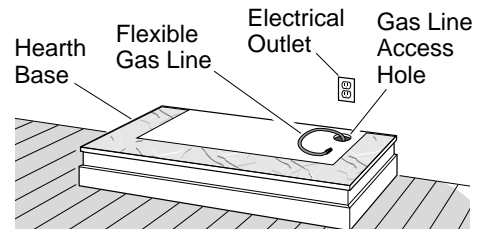

Figure 9 - Placing Hearth Base Accessory Against Wall
- When installing blower, install a properly grounded, 120 volt three-prong electrical outlet at fireplace location if an outlet is not there. If possible, locate outlet so cabinet mantel will cover it when installed (see Figure 9).
- Place hearth base accessory against wall at installation location. Cut an access hole in hearth top to run flexible gas line to fireplace (see Figure 9). Make sure to locate access hole so cabinet mantel will cover it when installed. *Note:* You can secure base to floor using wood screws. Countersink screw heads and putty over.